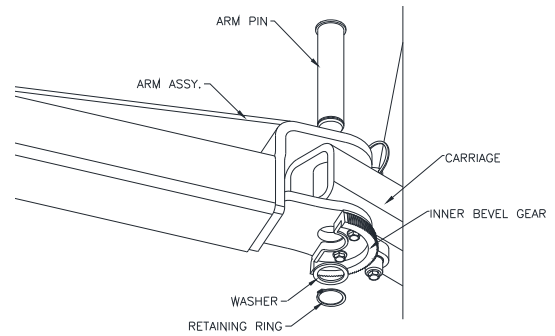

Fig 24 –Arm Pin Keeper Install
- 62) Install the provided retaining ring onto the pin with tool, **Fig 24**.